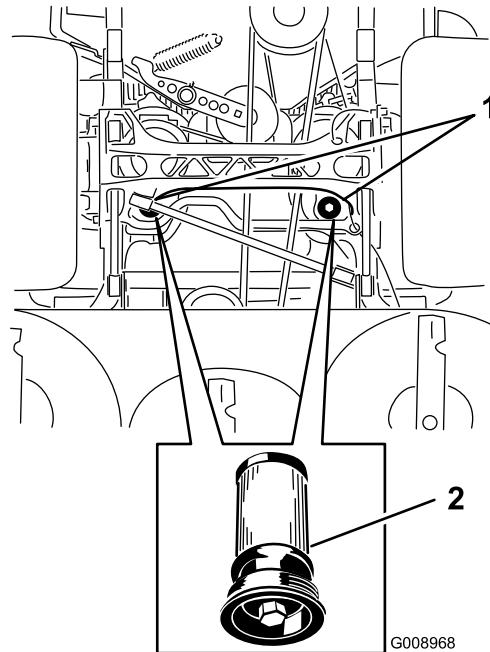

Figure 89
5. Place a drain pan under the filter, remove the old filter and wipe the surface clean (Figure 89).
6. Apply a thin coat of hydraulic oil to the rubber gasket on the replacement filter (Figure 89).